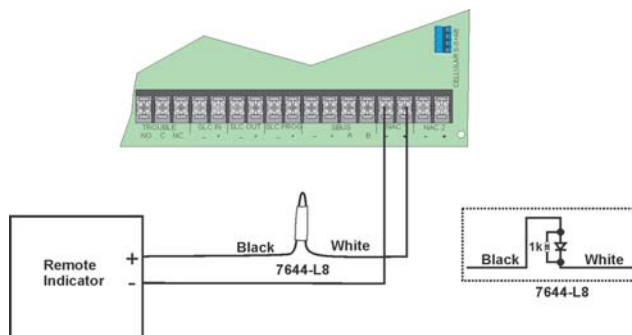

Figure 4.30 Polarity Reversal Connection Using the 7644-L8
1. Wire the 7644-L8 Module to the control panel as shown in Figure 4.30.